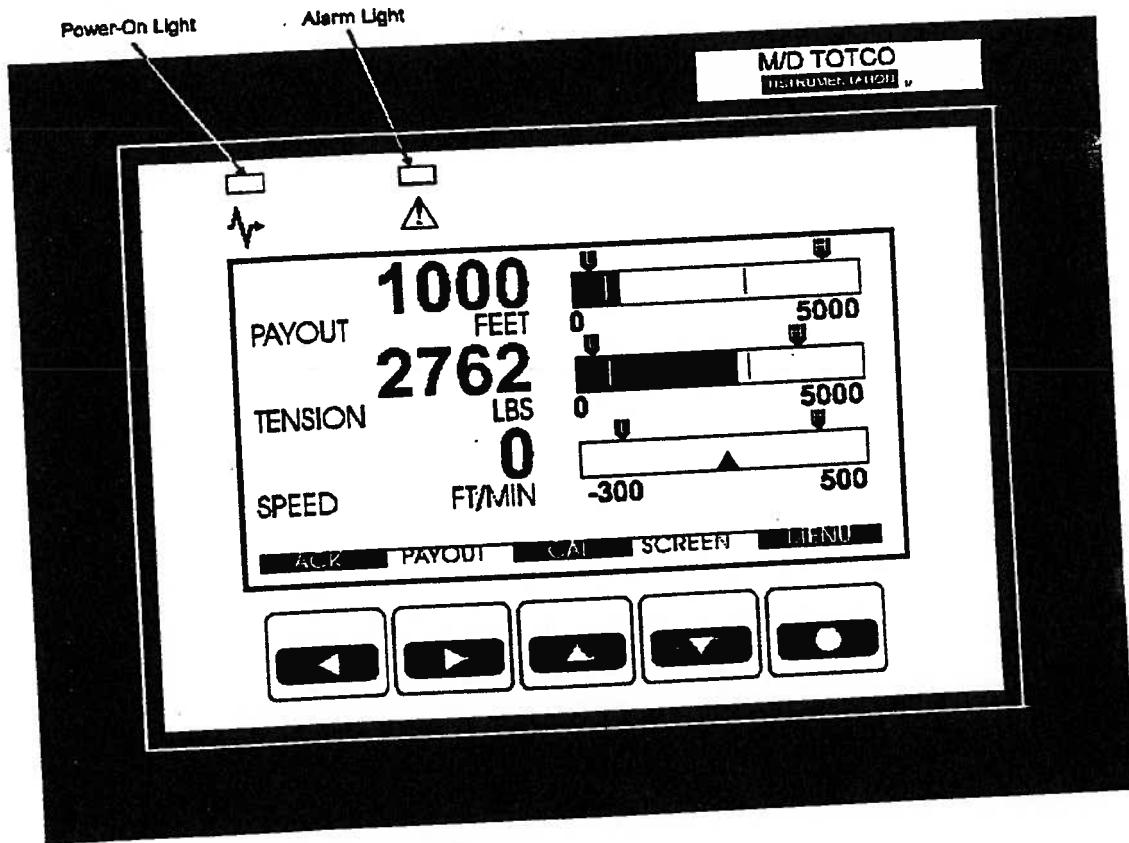

Figure 3-1. Operator's Screen
When the Line Monitor is powered on, it performs a short self-test and then shows the Operator's Screen. If the Line Monitor is working properly, the power-on light in Figure 3-1 turns green and there is a short, audible beep. The alarm light in Figure 3-1 turns green if there are no values in alarm; it turns amber or red if there are one or more values in an alarm condition.
During setup and calibration, the Line Monitor keys have the characteristics shown in Table 3-2. The exception to this rule is the Operator's Screen (Figure 3-1) and the MORE key on the Menu Label Bar (Figure 3-4).:
The Operator's Screen (Figure 3-1) reappears.
The Line Monitor clears all option relays. The Operator's Screen (Figure 3-1) reappears.
8. Press **EXIT** to return to the Operator's Screen (Figure 3-1).